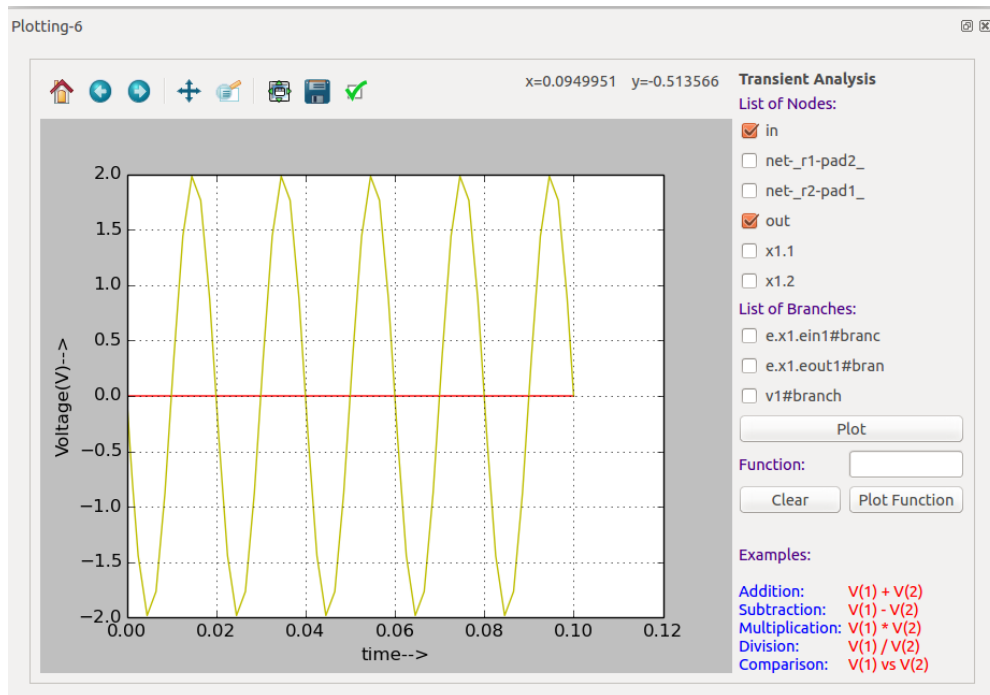

Figure 4.4: Simulation Output in Python Plotting Window
- Simulation: The netlist generated using the *KiCad to Ngspice* converter is simulated using simulation button. Clicking on the *Simulation* button will run the Ngspice simulation for current project. Python plotting window will open, as shown in Fig. 4.4. It shows the output waveform of current project. In the Ngspice tab we can view the output plotted by Ngspice.